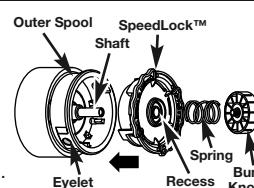

Fig. 21
2. Place the spring over the shaft and into the recess in the SpeedLock™ Spool (Fig. 21).
3. While holding the outer spool in place, insert the bolt located in the Bump Knob™ through the end of the spring and into the end of the shaft (Fig. 21).
4. While slightly compressing the spring, screw the Bump Knob™ clockwise into the shaft (Fig. 21). Tighten Securely.